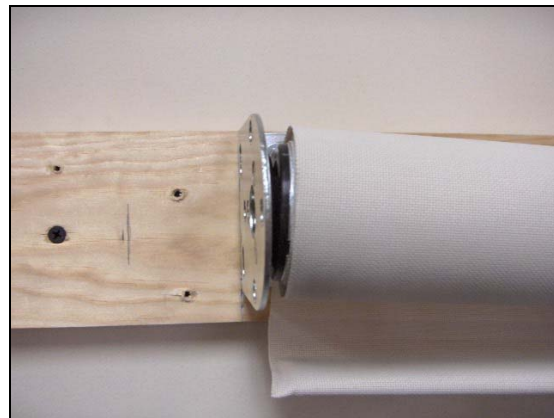

Figure 18 Motor Idler Collapsed in Bracket
- Gently push the shade toward the idler bracket until the idler pin on the shade collapses. See Figure 18.